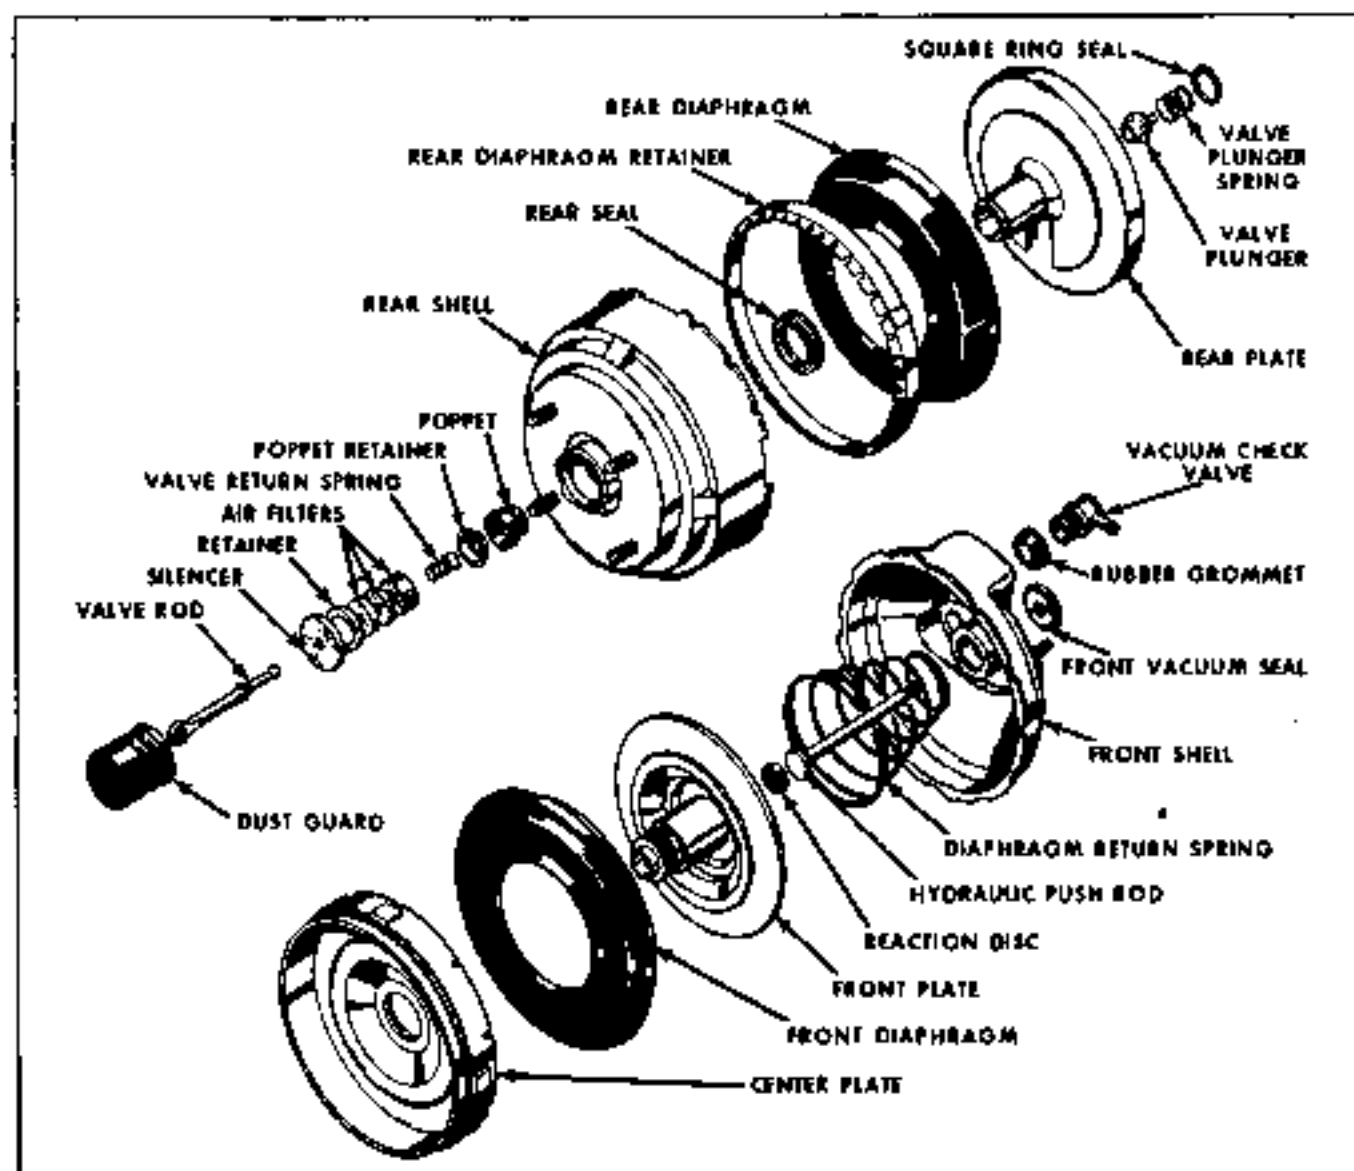

Fig. 5C-3 Power Unit - Exploded View
PARTS - REMOVE (Fig. 5C-2)
3. Reinstall hub protector. Position two small blocks of wood on either side of eye and clamp this assembly securely in vise (see Fig. 5C-2 inset). Leave just enough space between steel retainer on plastic valve hub and side of vise jaw to insert two medium-sized open end wrenches. Use wrench nearest vise as a pry to force the valve plunger grommet (and power section) off the ball end of the valve rod.